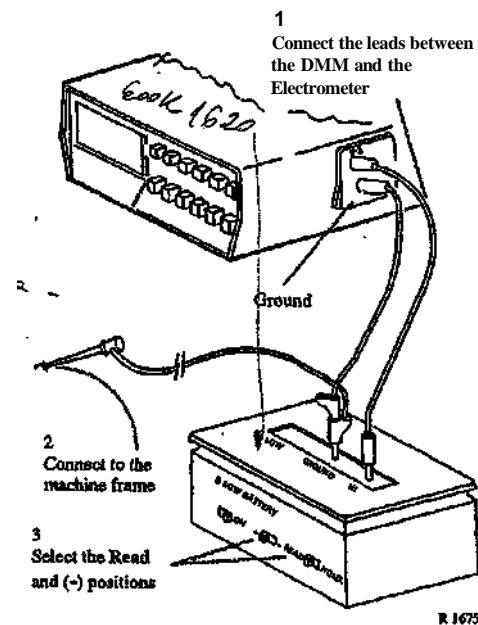

Figure 1. Connecting the Electrometer to the DMM
10. (Figure 1): Prepare the Electrometer and connect it to the DMM.